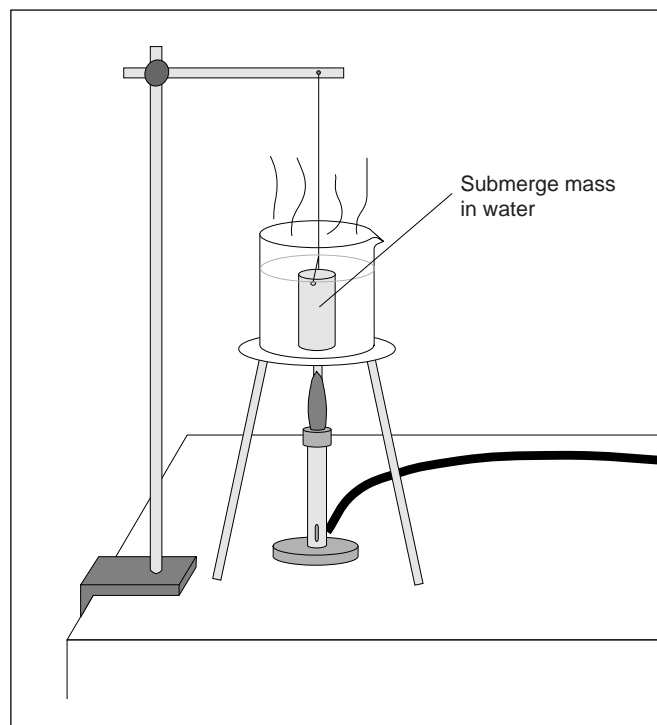

Figure 1: Heating Setup
1. Heat a beaker of water to boiling. While the water continues to boil, hang the object by a string so that the object is completely submerged in the boiling water but it is not touching the bottom of the beaker. Allow the object to come to equilibrium with the boiling water (wait about 5 minutes). See Figure 1.